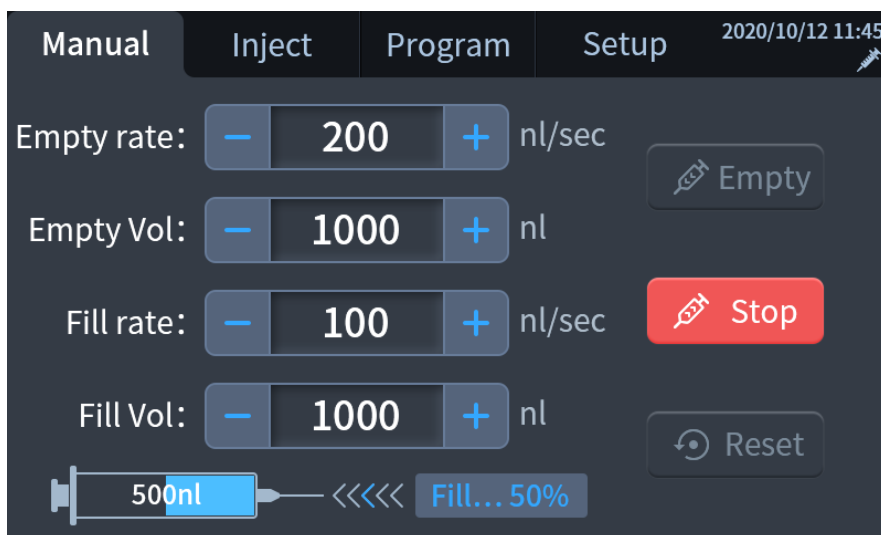

Figure 6-3
- 2) Place the electrode tip in the required reagent, click  **Fill** to aspirate the reagent at the fill rate and fill volume, as shown in Figure 6-3 to display the filling progress in real time.